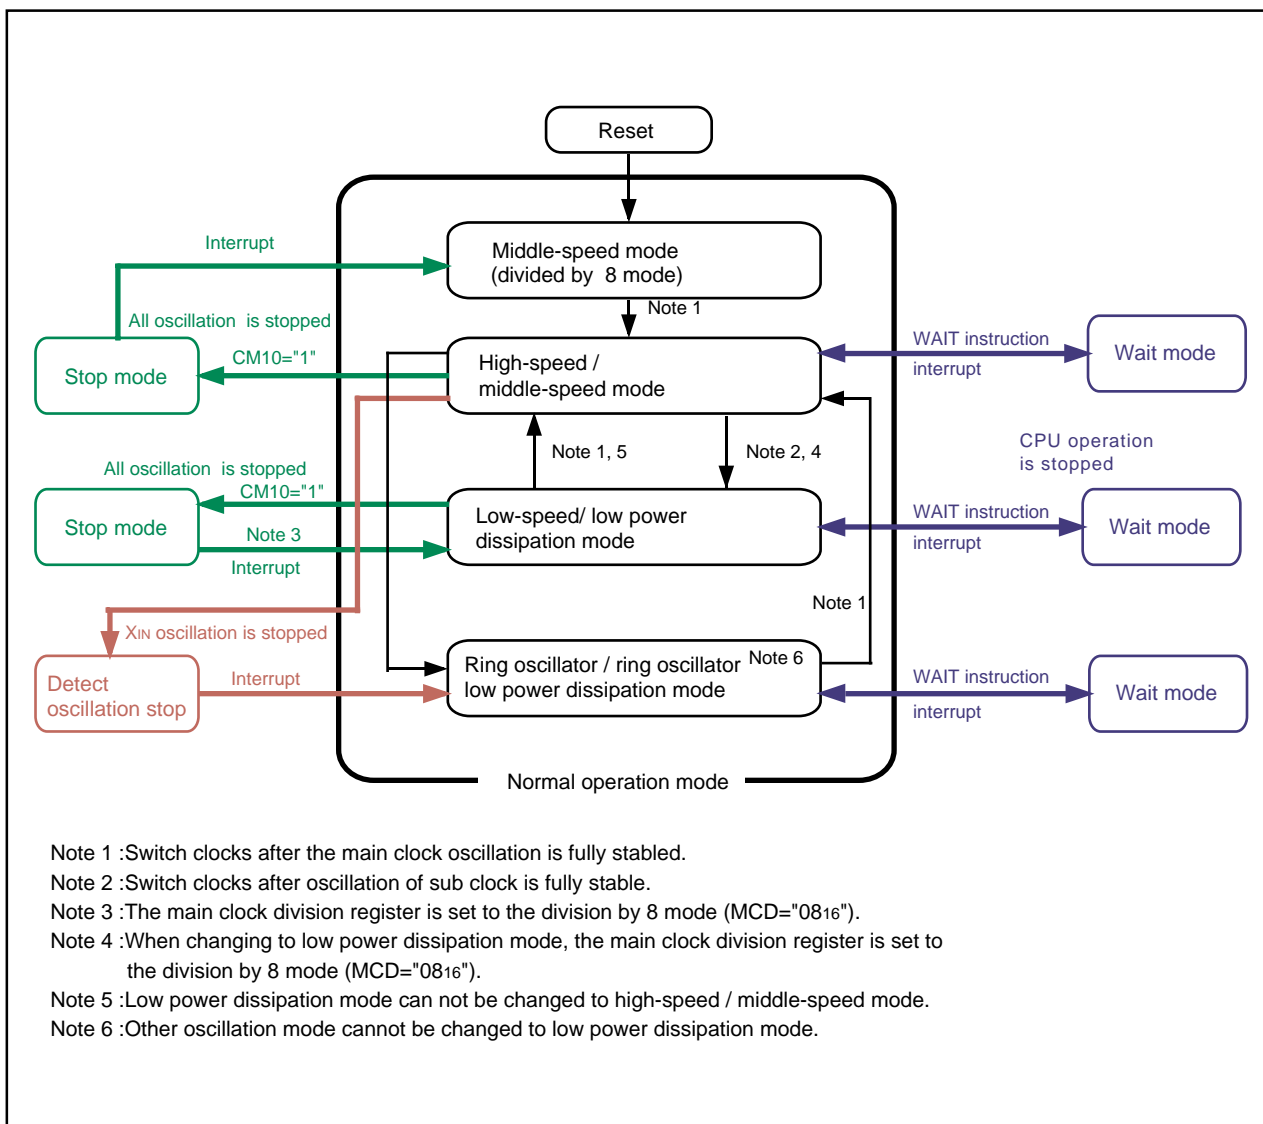

Figure 1.8.9. Clock transition
There are three power save modes. Figure 1.8.9 shows the clock transition between each of the three modes, (1), (2), and (3).